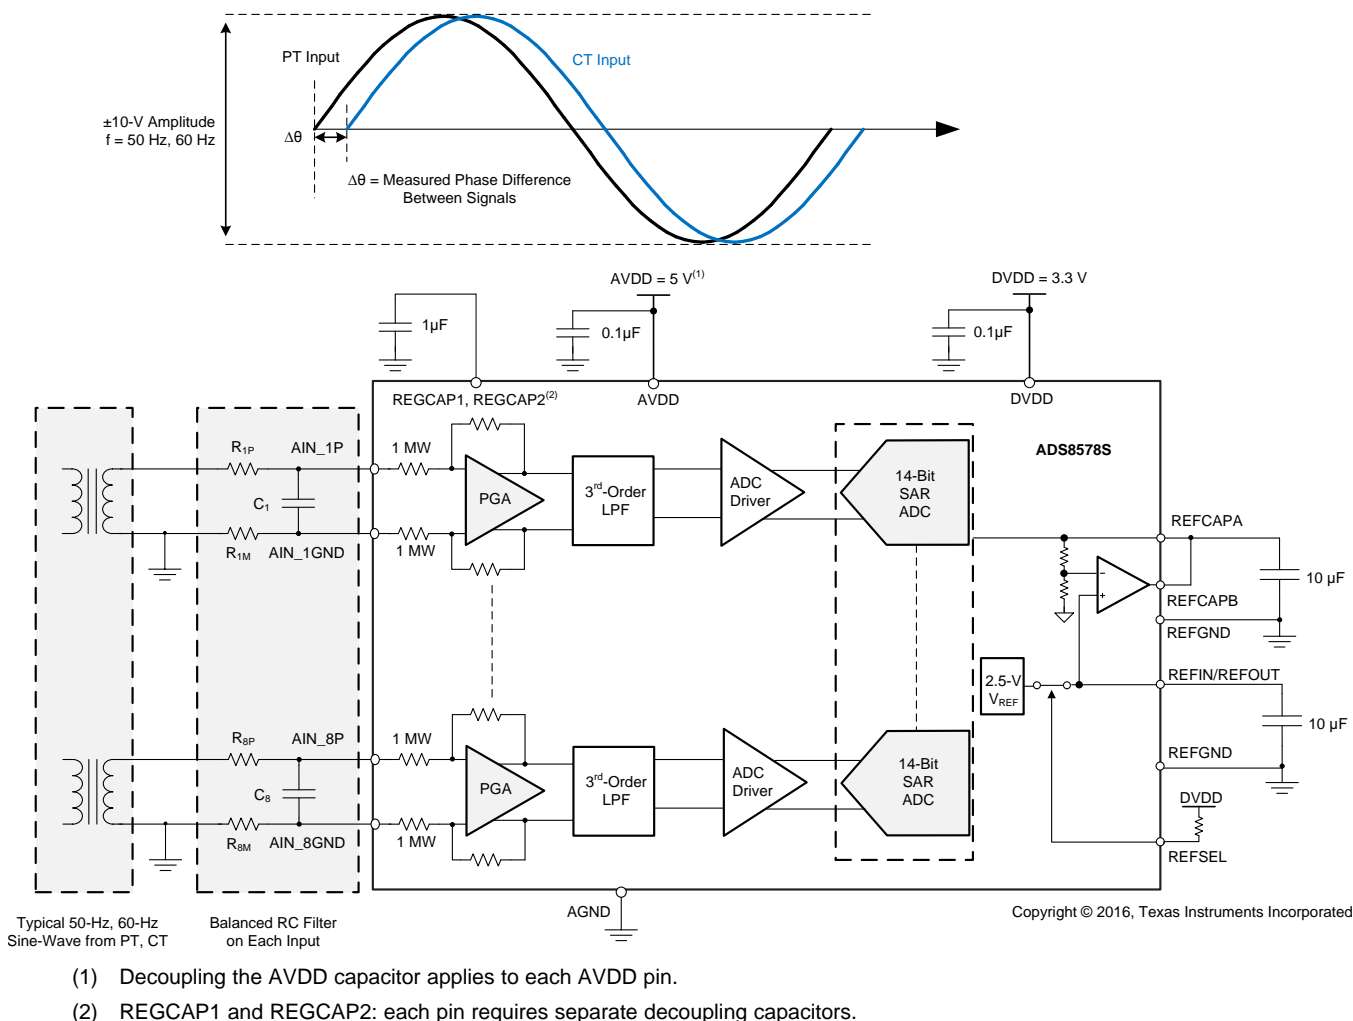

Figure 84. 8-Channel DAQ for Power Automation Using the ADS8578S
- Output range of the potential transformers (elements labeled PT in Figure 84)
- Output range of the current transformers (elements labeled CT in Figure 84)
The PT and CT used in the system (see Figure 84) have a ± 10 -V output range. Although the PT and CT provide isolation from the power system, a series resistor must be placed on the analog input channels. The series resistor helps limit the input current to ± 10 mA if the input voltages exceed ± 15 V. For applications that require protection against overvoltage or fast transient events beyond the specified absolute maximum ratings of the device, an external protection clamp circuit using transient voltage suppressors (TVS) and ESD diodes is recommended.
The primary goal of the data acquisition system illustrated in Figure 84 is to measure up to 20 harmonics in a 60-Hz power network. Thus, as shown in Equation 1, the analog front-end must have sufficient bandwidth to detect signals up to 1260 Hz.